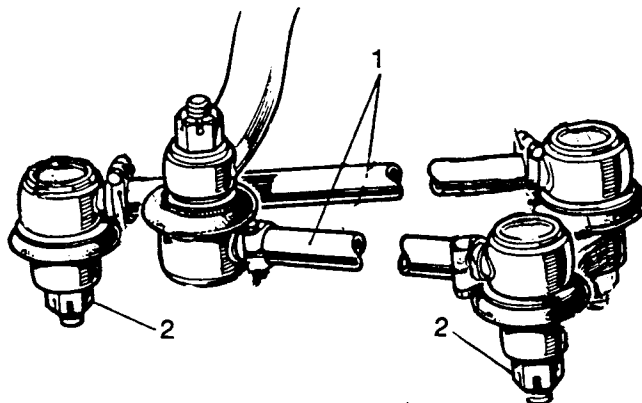

Fig J2.16
- (5) Refer to Fig J2.16. Replace the steering track rod and drag link (1). Torque the ball joint fixings (2) to 40 N.m.